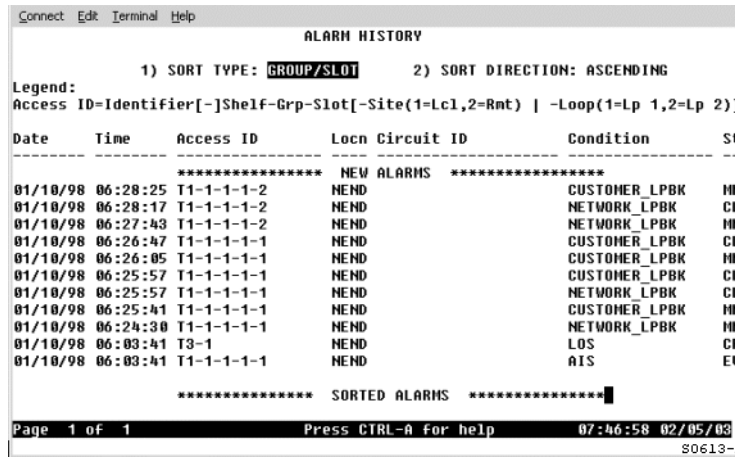

Figure 19. Alarm History Screen
- 3 Select **3. Display Alarm History**. The Alarm History screen displays (Figure 19 on page 27).